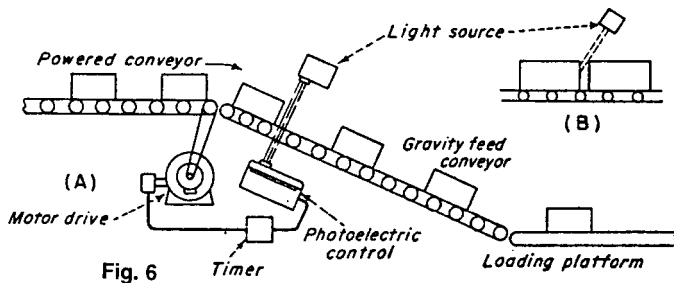

Fig. 6
**Fig. 6** Jam detector. Cartons jamming on the conveyor cause losses in production and damage to cartons, products, and conveyors. Detection is accomplished with a photoelectric control that has a timer, as shown in (A). Each time a carton passes the light source, the control beam is broken. That starts the timing interval in the timer. The timing circuit is reset without relay action each time the beam is restored before the preset timing interval has elapsed. If a jam occurs, causing cartons to butt against each other, the light beam cannot reach the control. The timing circuit will then time-out, opening the load circuit. This stops the conveyor motor. By locating the light source at an angle with respect to the conveyor, as shown in (B), the power conveyor can be delayed if cartons are too close to each other but not butting each other.